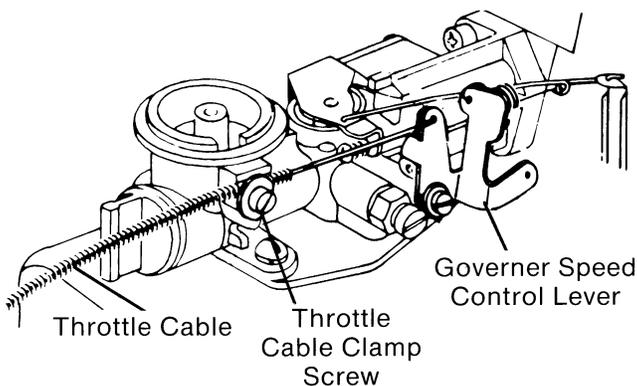

FIG. 10
- B. Disconnect throttle cable at engine, by loosening throttle cable clamp screw enough so that cable can be removed. Disconnect cable end from governor speed control lever. (Fig. 10)
1. Disconnect throttle cable at engine, by loosening throttle cable clamp screw enough so that cable can be removed. Remove cable end from governor speed control lever. (Fig. 10)
5. Attach end of throttle cable to governor speed control lever and loosen throttle cable clamp screw so that throttle cable can be slipped into place. (Fig. 10)
7. Secure throttle cable by tightening cable clamp screw. (Fig. 10)